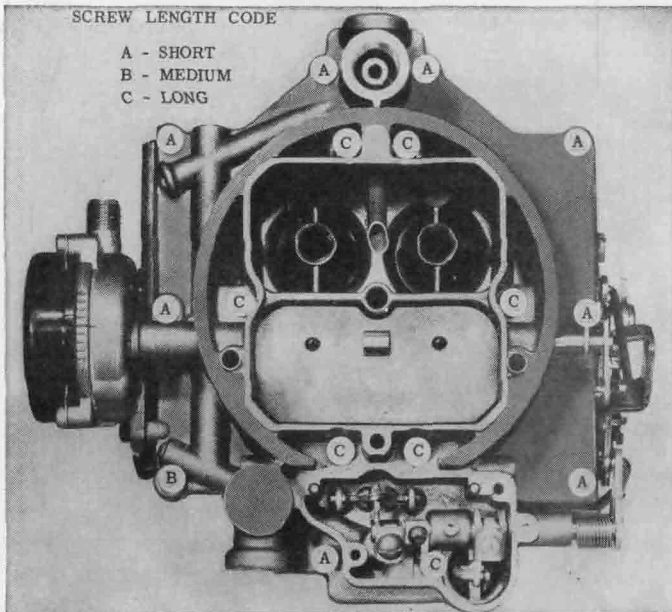

FIG. 10-43. Location of screws attaching the air horn. (Oldsmobile Division of General Motors Corporation)
- i.* Remove the 16 short, medium, and long screws attaching the cover (or air horn) to the carburetor body or bowl assembly (see Fig. 10-43).
- g. Place air-horn assembly on carburetor body, making sure that the vacuumeter piston and the pump plunger enter their proper bores. Attach with 16 screws (see Fig. 10-43). Tighten evenly and in sequence.